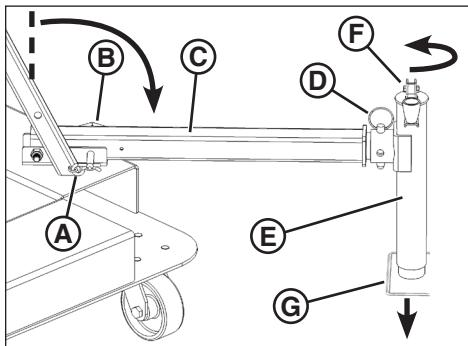

Figure 7
1. Remove the hair pin cotter (A, Figure 7) and outrigger locking pin (B).
2. Lower the outrigger (C, Figure 7) into the operating position as shown, and lock in the operating position with the outrigger locking pin. Secure the outrigger locking pin with the hair pin cotter.
3. Remove the stabilizer jack locking pin (**D**, Figure 7). Rotate the jack into the operating position (**E**). Install the stabilizer jack locking pin fully through the top and bottom holes in the jack and outrigger.
4. Unfold the handle (**F**, Figure 7) of the stabilizer jack. Turn the handle counter-clockwise to lower the jack foot (**G**) firmly onto the work site surface.